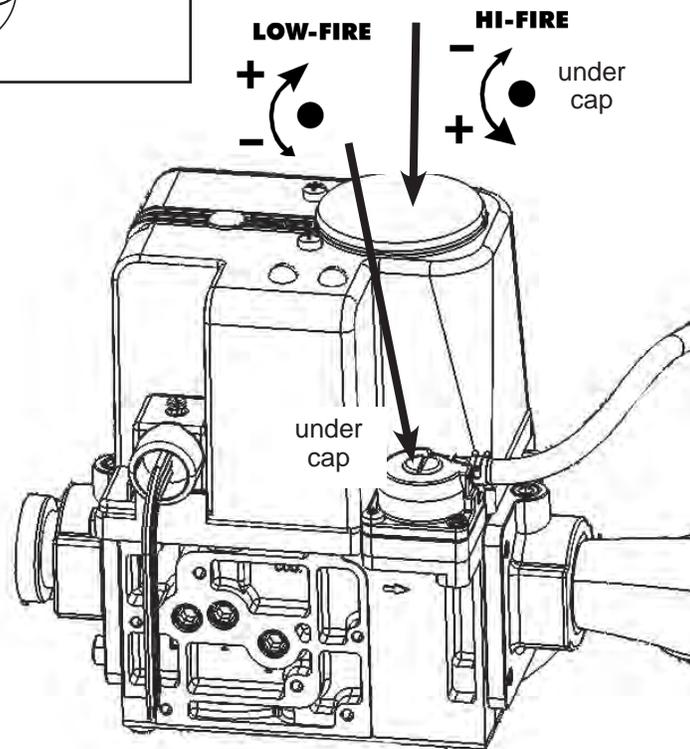

Figure 49. Brute Gas Valve 600 - 850 Mbtu
1. On the Gas Valve, locate the adjustments for High Fire, and Low Fire. See Figure 47 on page 66 thru Figure 49 on page 68.
See Figure 47 thru Figure 49.